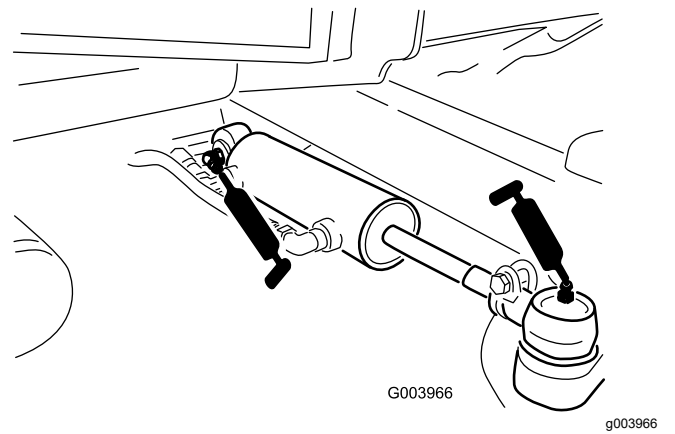

Figure 106
- Steering-cylinder ball joints (2) (Figure 106)